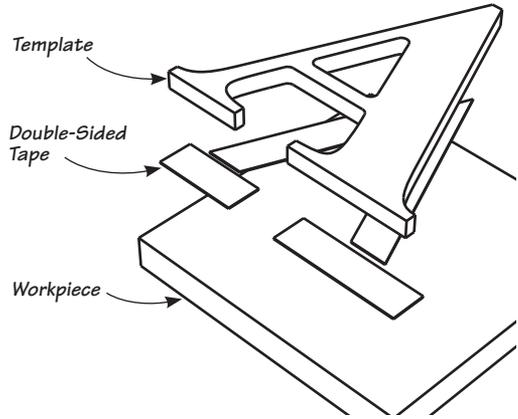

Figure 10: Mounting a workpiece.
4. Attach your template to the appropriate side of the workpiece using double-sided tape. When mounting the template to the workpiece, be sure that weaker areas (e.g., the thin leg on the "A" shown in **Figure 10**) are securely attached to the workpiece. This will reduce the chance of breaking these parts during routing.